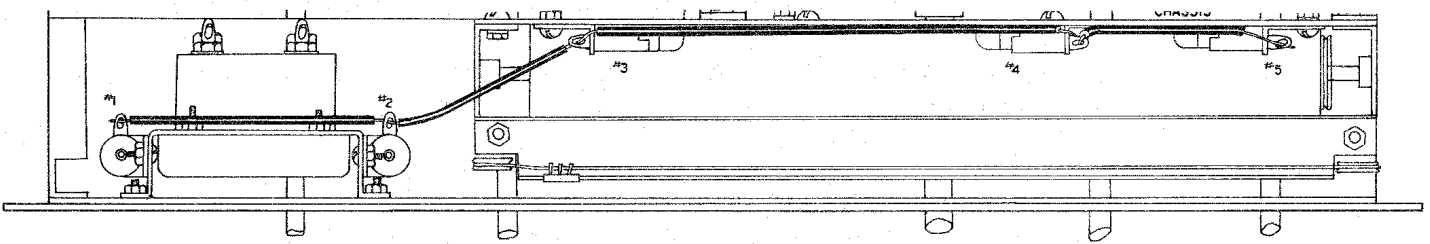

Figure 15
- () Install 5 #47 pilot lights, as shown in Figure 15.